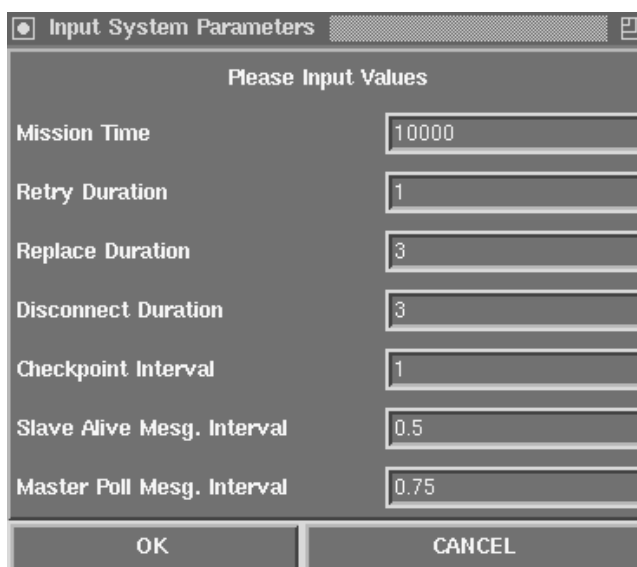

Figure 5: Entering system wide parameters
- **SYSTEM PARAMETERS** is a command button. When pressed, a “input system parameters” window shown in Figure 5 comes up. Here the user can change the parameters of the simulation. The